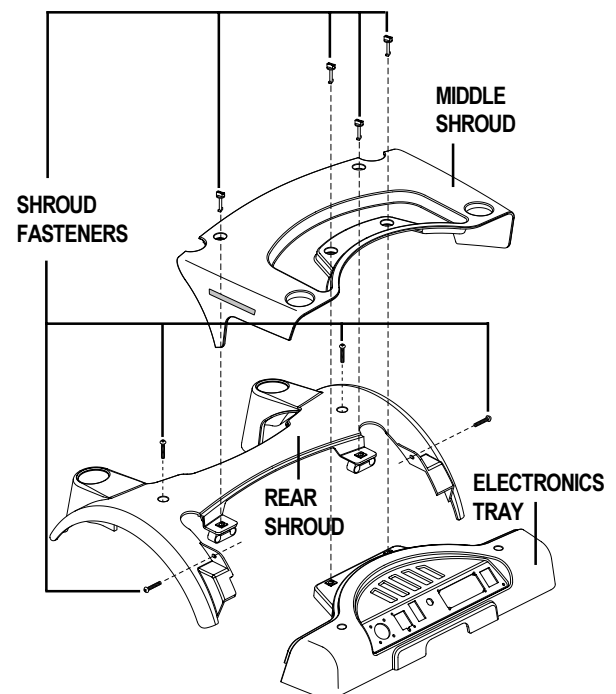

Figure 10. Shroud Attachment
5. Rotate the four fasteners on the middle shroud. See figure 10.
7. Remove the four fasteners on the back shroud and remove the shroud. See figure 10.